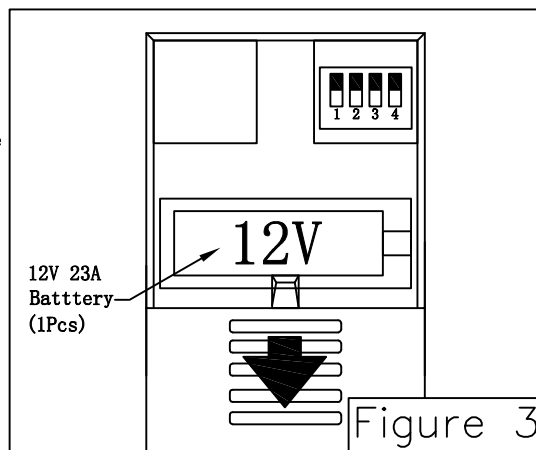

Figure 3
- To make fan operational, install 23A/12V battery (included) in hand-held remote transmitter, with fan power off. Then follow the remote code setting process. (If not used for long periods of time, remove battery to prevent damage to transmitter). Store there mote away from excessive heat or humidity. (Figure 3)